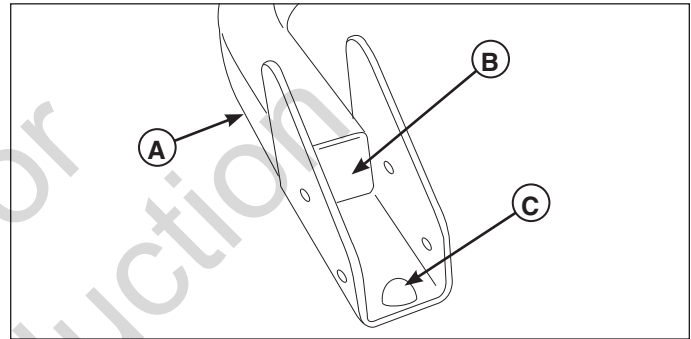

Figure 7. Assemble the Top Loop
1. Install the plastic cap (B, Figure 7) into the end of the top loop tube (A). Repeat for other end of tube.
2. Make sure the rubber stop (C) is properly seated against the inside of the pivot mount. See Figure 7.